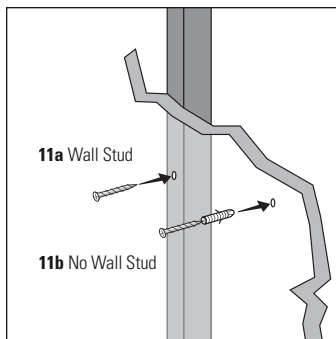

FIGURE 11a & 11b: Use #10 screw for wall stud, use #10 wall anchors and screw for no wall stud.
6. If you are certain there is a stud behind the wall surface, drive #10 screws (not included) through the wall and into the stud [figure 11a].